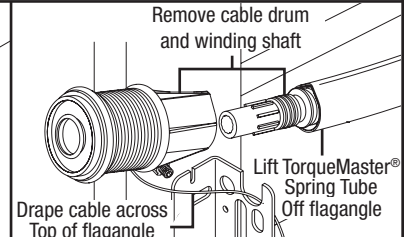

Fig. 9
**Step 7:** Lift the right hand side of the TorqueMaster® spring tube and slide the cable drum off. Realign the groove in the winding shaft with the round notch in the flagangle and drape the counterbalance cable with drum over the flagangle (Fig. 9). Repeat the same process for the left hand side. Lift the TorqueMaster® spring assembly off the flagangles and out of the doorway. Unhook the counterbalance cables from the right and left hand bottom brackets. Remove all TorqueMaster® counterbalance parts from the work area.